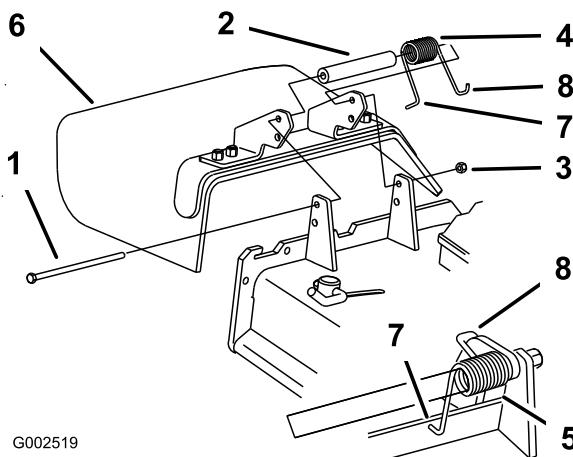

Figure 16
- Remove the side discharge chute from the mower deck (Figure 16).